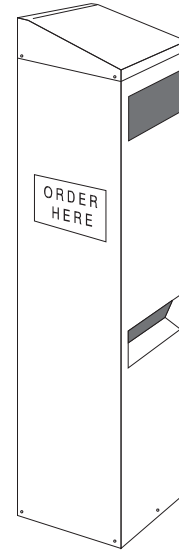

Figure 1.
- i. Position the sign on the inside of the speaker post, over the rectangular sign hole, so it will be read correctly from outside the speaker post when the post is standing upright, as shown in Figures 1